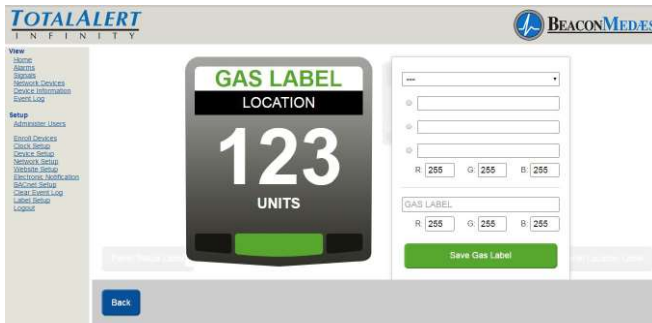

Figure 240
6. From home screen, Click on the area badge to setup non-latin language parameters. (See Figure 240)